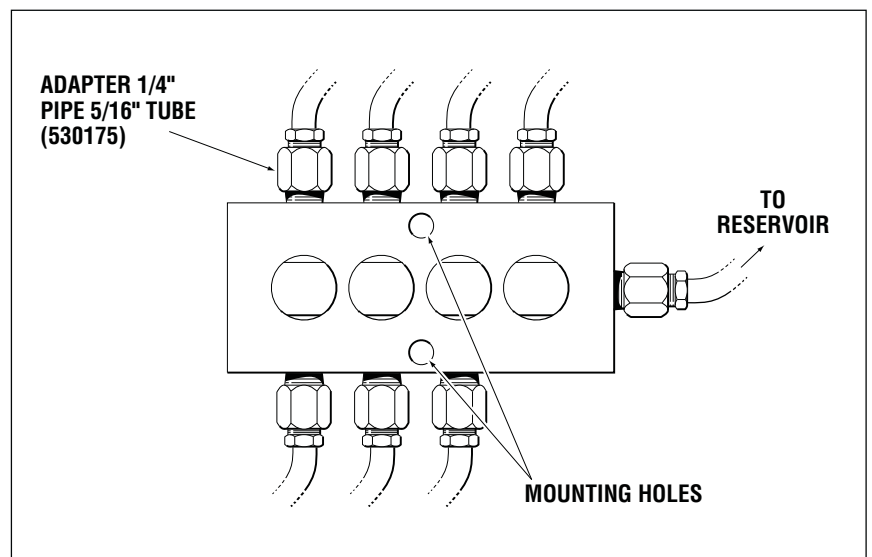

Figure 12. MCV-04 Charging Valve.
- 1 Install appropriate adapters for the tubing used. For port locations see Figure 12.